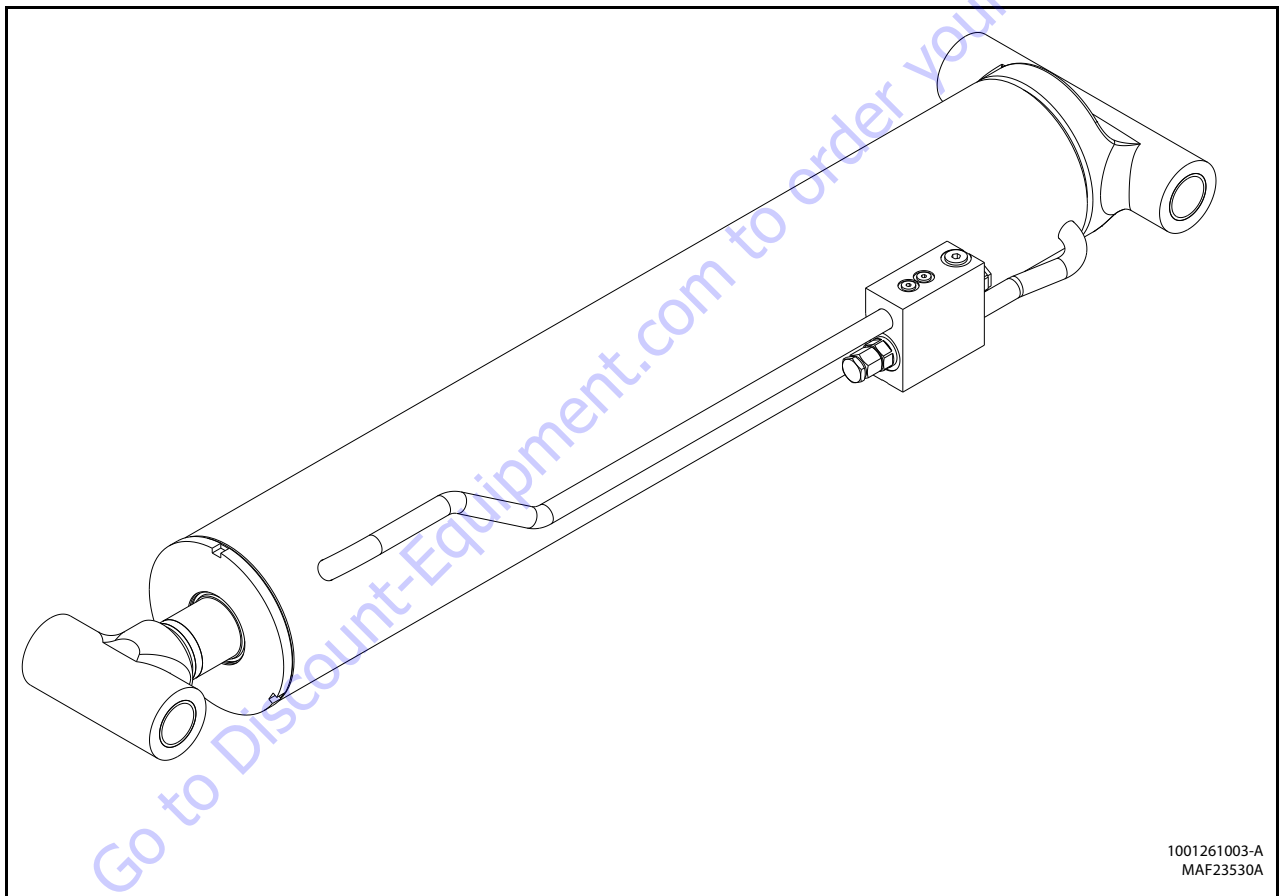

Figure 5-8. Tower Boom Lift Cylinder
**NOTE:** Refer to Figure 5-8. Tower Boom Lift Cylinder